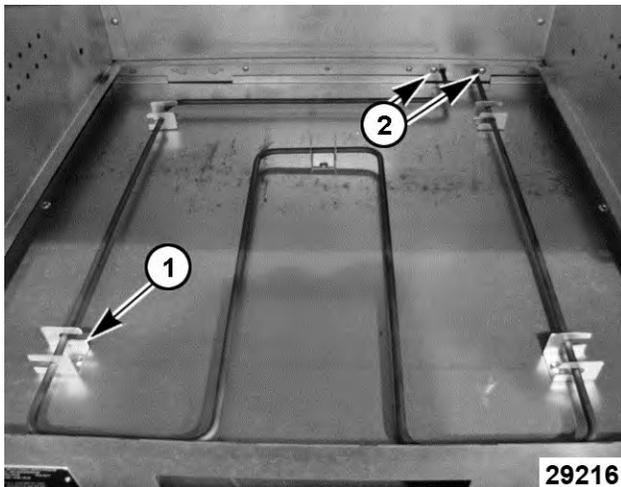

Fig. 15
6. Loosen element mounting brackets (1, Fig. 15).
7. Remove element mounting screws (2, Fig. 15).